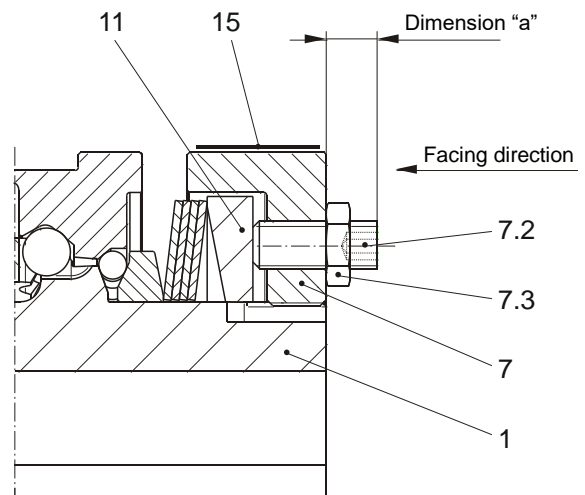

Fig. 18
If no particular torque adjustment is requested customer-side, the clutch will always be **pre-set** to approx. 70 % of the maximum torque. The adjusting nut (7) is marked with dimension "a" (70 % of the maximum torque, see Fig. 18).
Adjustment is carried out via dimension "a" by turning the set screws (Item 7.2, Fig. 18).
Turning the set screws (7.2) clockwise causes a reduction in torque (Fig. 19, dimension "a -" acc. adjustment table (Item 15) and Fig. 20). Turning it anti-clockwise causes an increase in torque (Fig. 19, dimension "a +" acc. adjustment table (Item 15) and Fig. 20). You should be facing the adjusting nut (7) as shown in Fig. 18.
- For dimension "a", see the adjustment table (Item 15, Fig. 20) (The adjustment table (15) is glued onto the outer diameter of the adjusting nut (7), see Fig. 18).